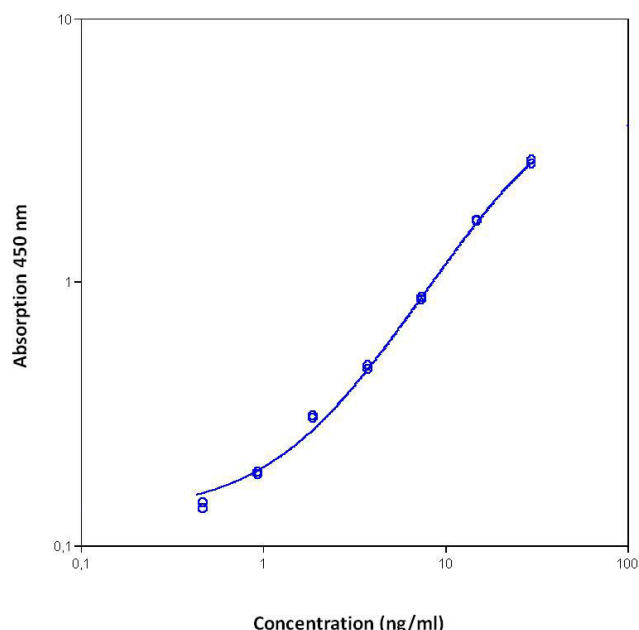

Fig. 9 Representative standard curve for Human Osteopontin ELISA Kit. Human Osteopontin was diluted in serial 2-fold steps in Sample Diluent.
- A representative standard curve is shown in Figure 9.